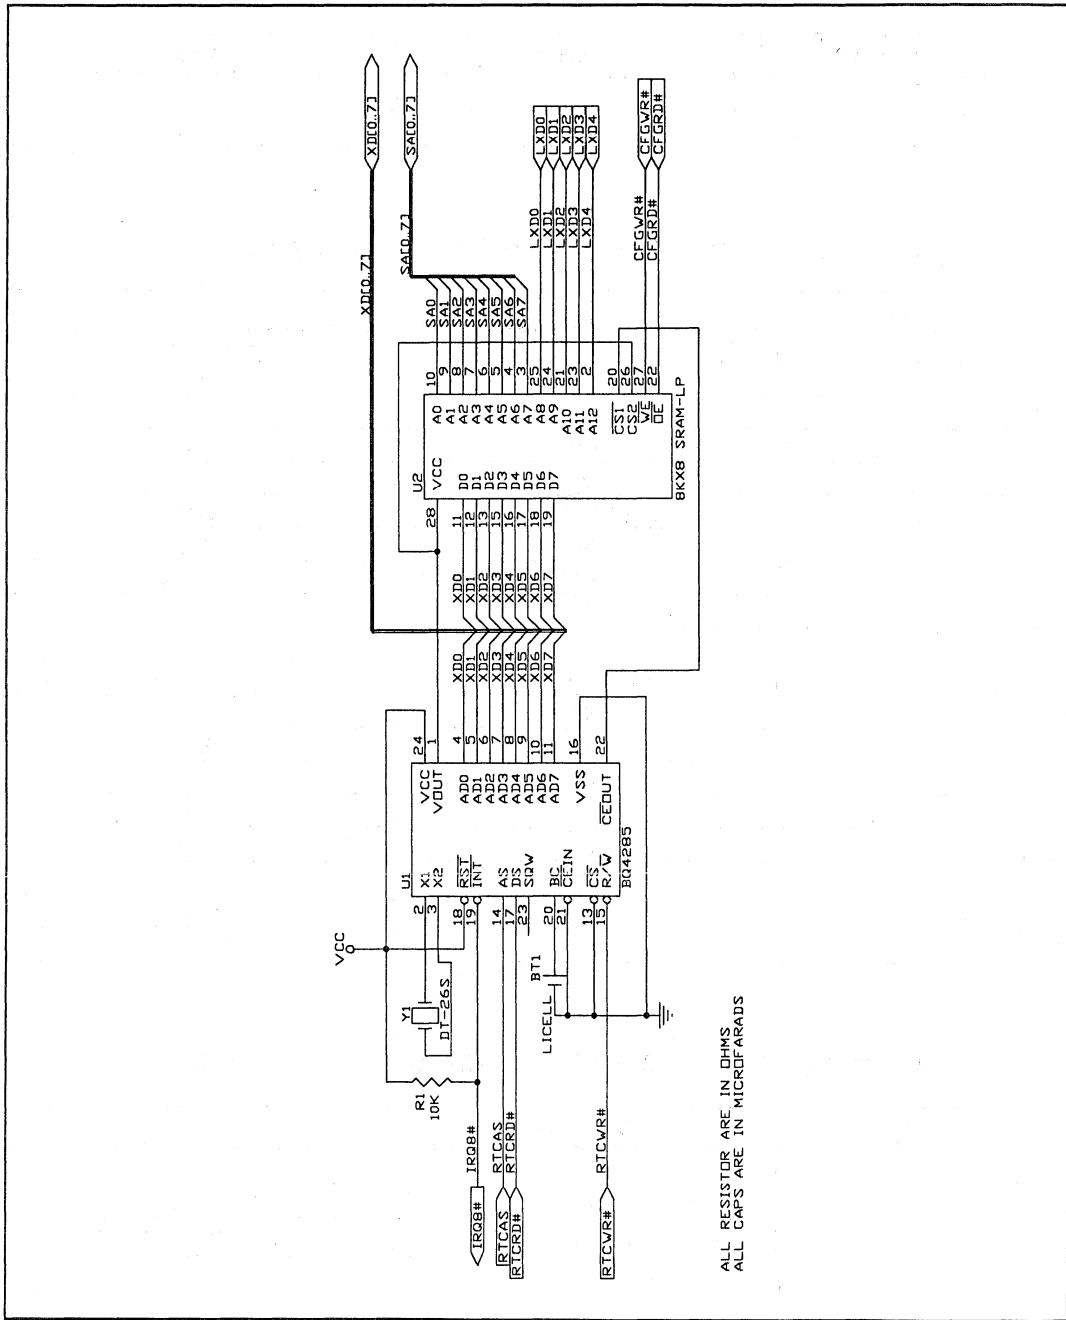

Figure 7. bq4285 EISA or MCA Example
**Table 8. bq4285 EISA or MCA Parts List (Figure 7)**